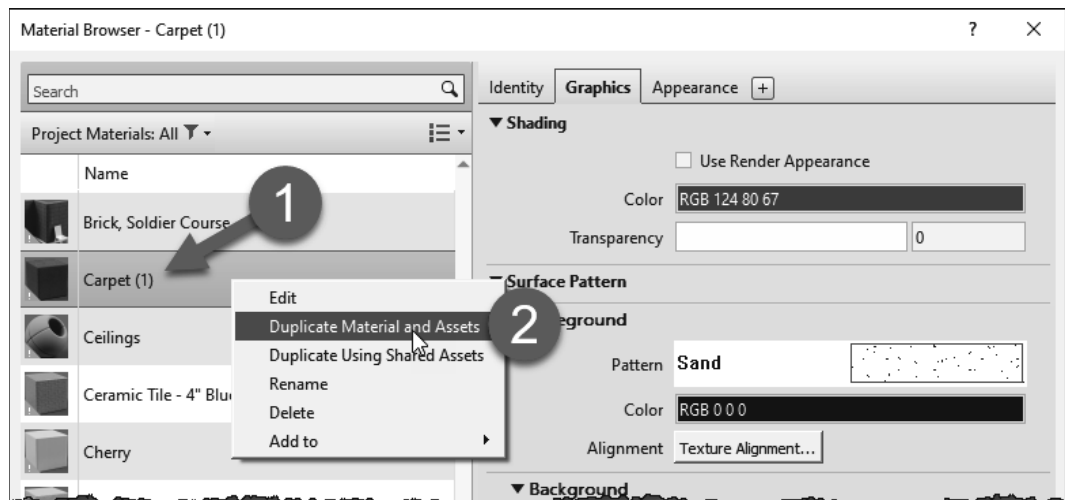

FIGURE 4-3.2 Duplicating a material
6. In the *Project Materials* list, select *Carpet (1)*.
7. Right-click *Carpet (1)* and then click the **Duplicate Material and Assets** in the pop-up menu (Figure 4-3.2).